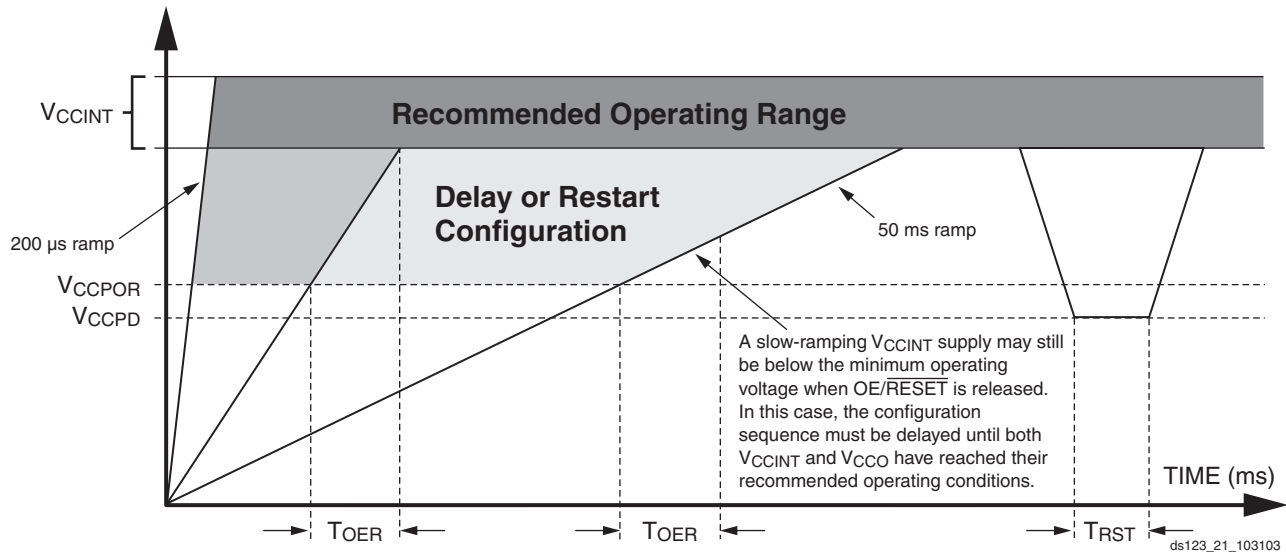

Figure 6: Platform Flash PROM Power-Up Requirements
below the power-down threshold (V_{CCPD}), the PROM resets and $\overline{OE/RESET}$ is again held Low until the after the POR threshold is reached. $\overline{OE/RESET}$ polarity is not programmable. These power-up requirements are shown graphically in Figure 6.
- At power up, the device requires the V_{CCINT} power supply to monotonically rise to the nominal operating voltage within the specified T_{VCC} rise time. If the power supply cannot meet this requirement, then the device might not perform power-on-reset properly. See Figure 6, page 11.